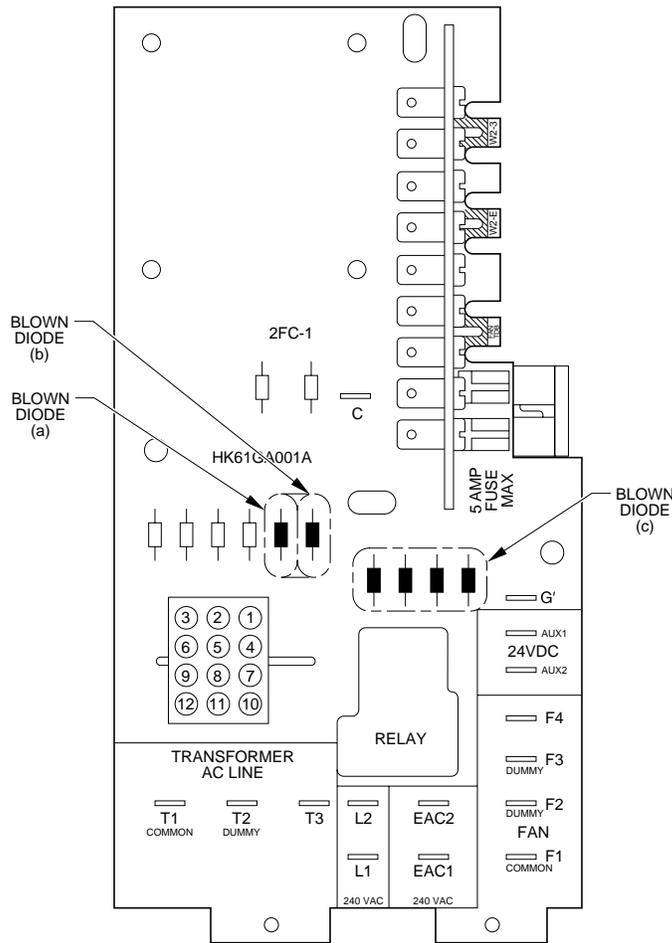

Fig. 40—Control Board Noting Diodes (HK1GA001)
- b. Check the wiring of the heaters. If the heater is miswired, the fuse may blow. Check the diodes shown in Fig. 40 for signs of overheating. If the heater is miswired, correct the miswiring.